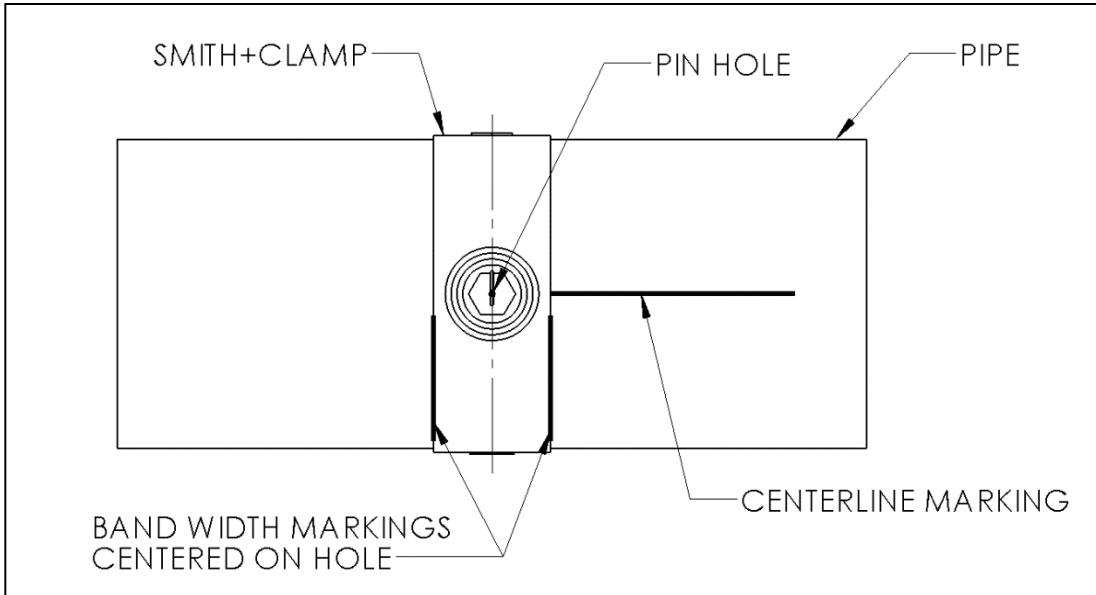

Figure 4
5. Using the marking or pilot pin to locate the pinhole, slide the PLIDCO Smith+Clamp over the leak as shown in Figure 4.